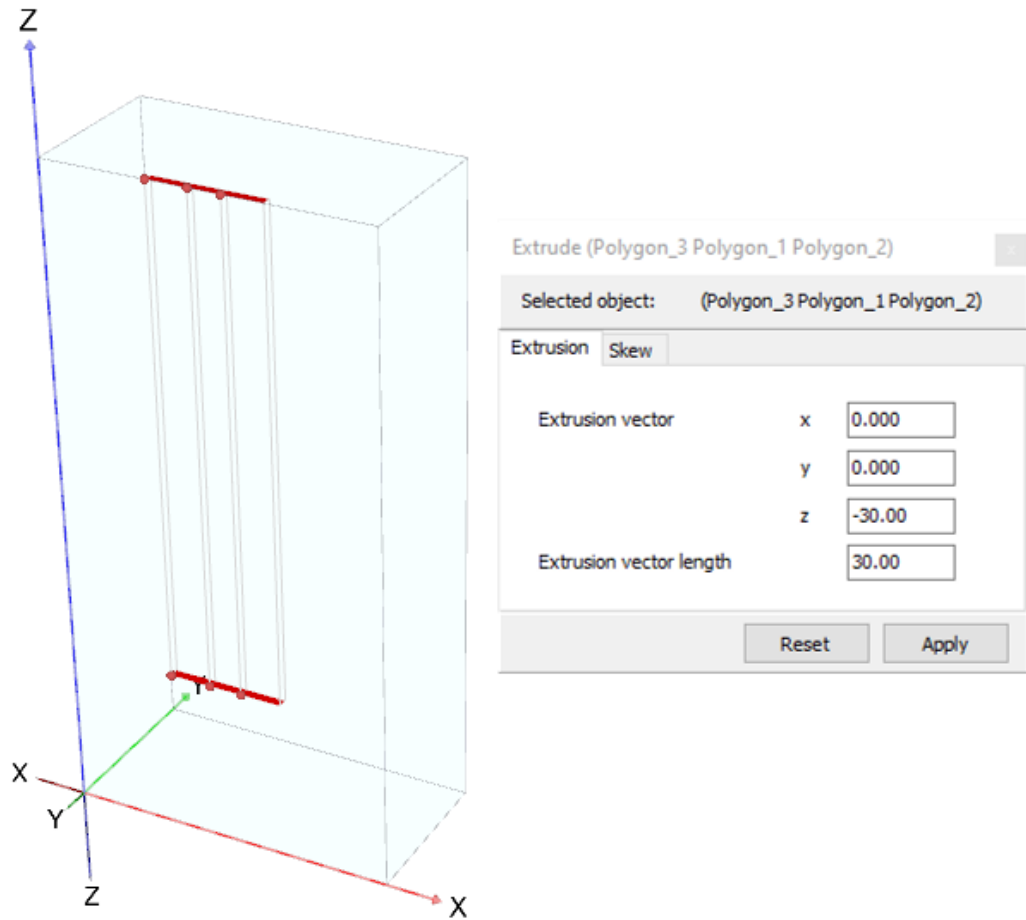

Figure 4-2: Extruded surfaces
- 3  Click the **Extrude object** button in the side toolbar. Set the extrusion vector to (0 0 -30) and the extrusion vector length to 30 as displayed in Figure 4-2 \(p. 75\).